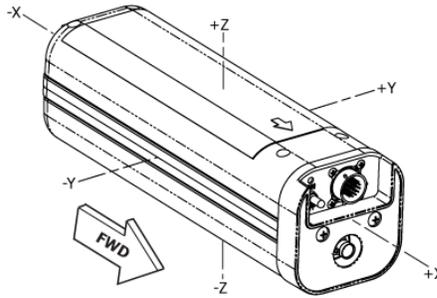

Figure 9 ELT Orthogonal Axes
NOTE: The fixed wing G-switch is triggered by approximately 2.3 Gs of deceleration (axis +X in Figure 9), whereas the five-axis G-switch is triggered by 12.5 Gs of deceleration (axes -X, -Y, +Y, -Z, and +Z in Figure 9), and requires a significant force to activate. The higher G-rating precludes inadvertent activation in helicopter applications but will allow for activation during a mishap.
- 4) Utilizing the sturdy padded surface, hold the ELT 10 inches (26.1 Centimeters) above the test area and thrust down forcefully maintaining a level axis into the pad to test the -X axis (see Figure 9).
- 5) Repeat step 2 for the -Y, +Y, -Z, and +Z axes (see Figure 9).